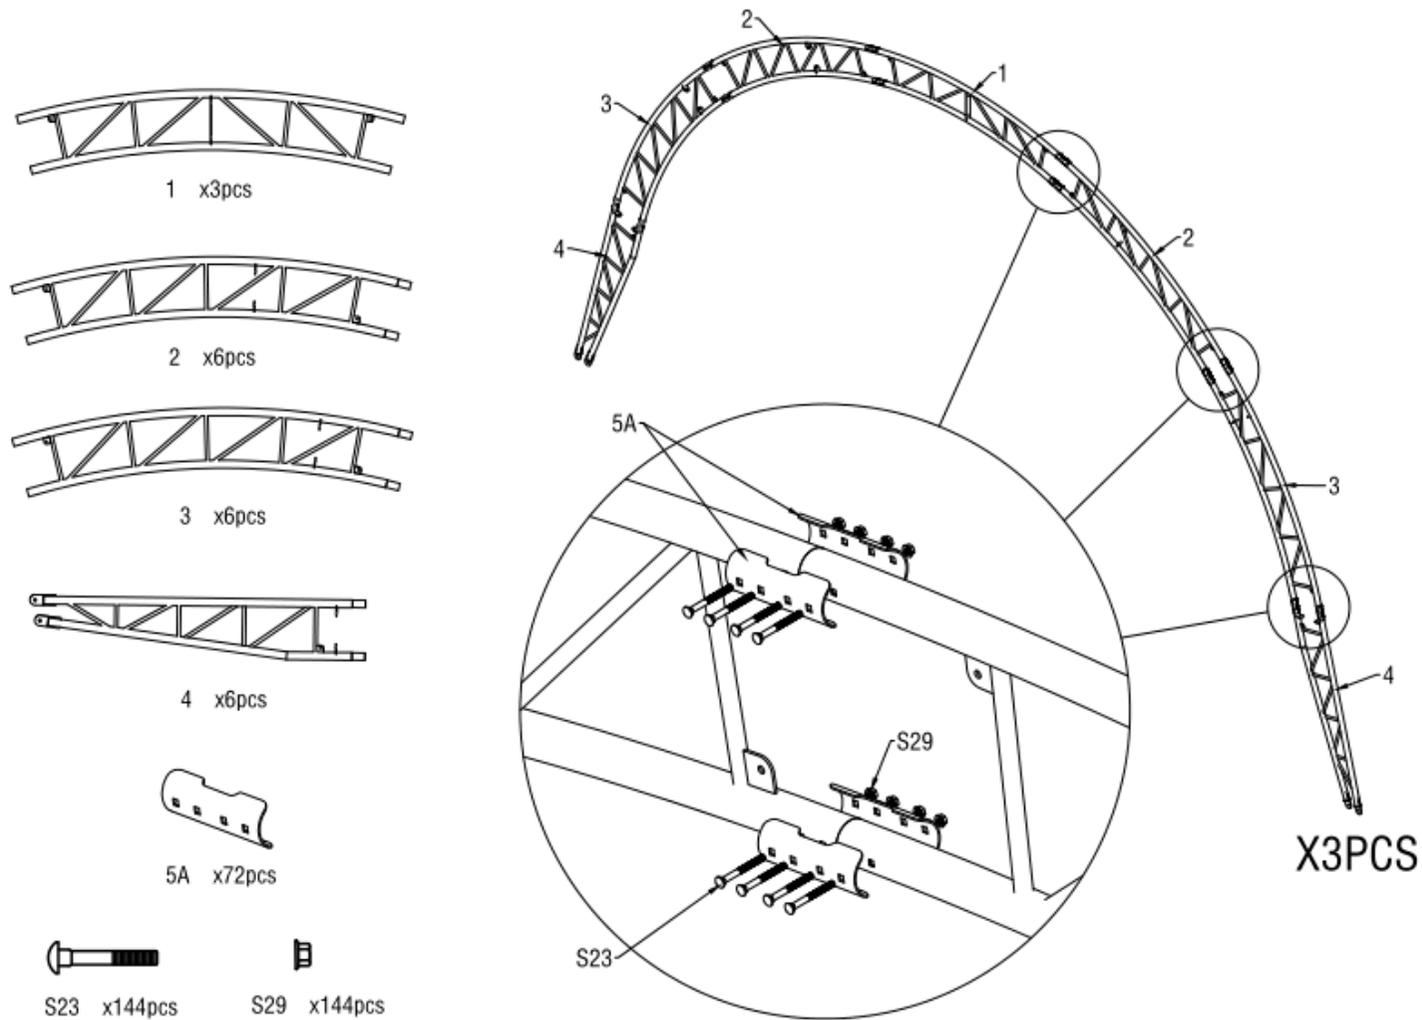

Figure 4
- As Figure 4 shown to find one Top roof tube (No.1), two Roof upper curving tube (No. 2), two Roof middle curving tube at shoulder (No. 3) ,two Lower curving tube (4) and assemble every group arch with Screw M8x80 (No.S23). **DO NOT install the screw on the top of the truss where the fabric will rest.**
**Note:** Top Roof tube,Roof curving tube and Lower curving tube (No.1A,2A,3A&4A) which are welded with steel plates for front and back doors are different from the middle arch.(Figure 4)